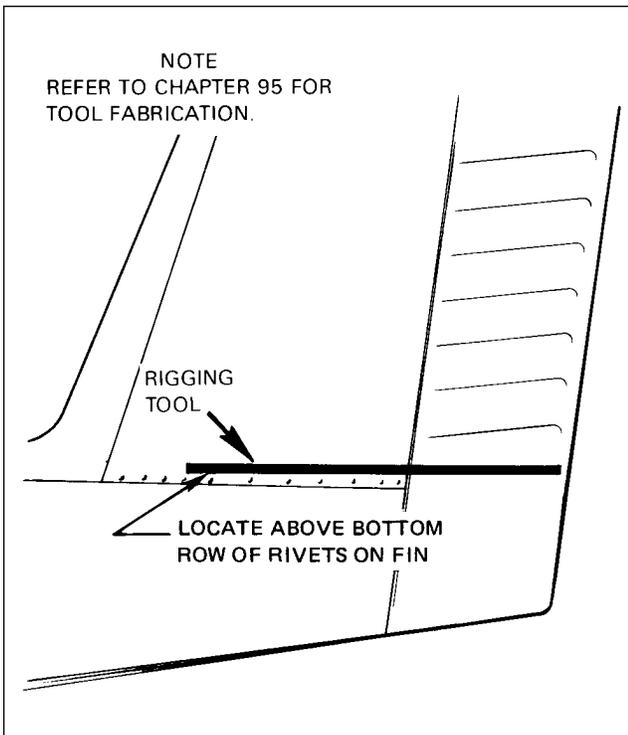

Figure 27-9. Rudder Rigging Tool
- B. With the rudder against its stop, place a rigging tool against the side of the rudder and vertical stabilizer as shown in Figure 27-9. (Ascertain that the tool is not contacting any rivets.) If no gap exists between the rigging tool and the surface of the rudder and vertical stabilizer, the rudder stop for one direction of travel is correct as required in Figure 27-11. (This tool may be fabricated from dimensions given in Chapter 95.)